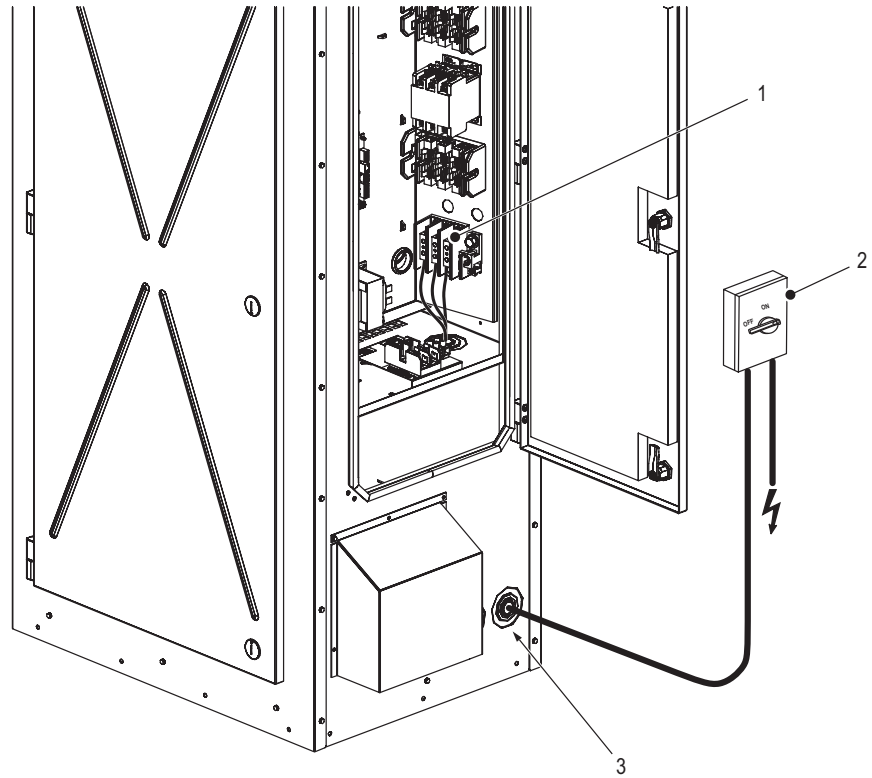

Figure 17: Nortec EL/RS Outdoor Humidifier Power Connection
- All electrical cables MUST enter the side or bottom of the unit through minimum IP55-rated cable glands (supplied by others) to ensure that the IP55 rating for the unit is maintained. Knockouts are available on the side and bottom of the unit for routing the cables into the unit – refer to Figure 17 on page 43.
- The power cable must be connected to the terminal block (X0). Refer to Figure 17 on page 43 and "Outdoor Enclosure Wiring Diagram" on page 44.